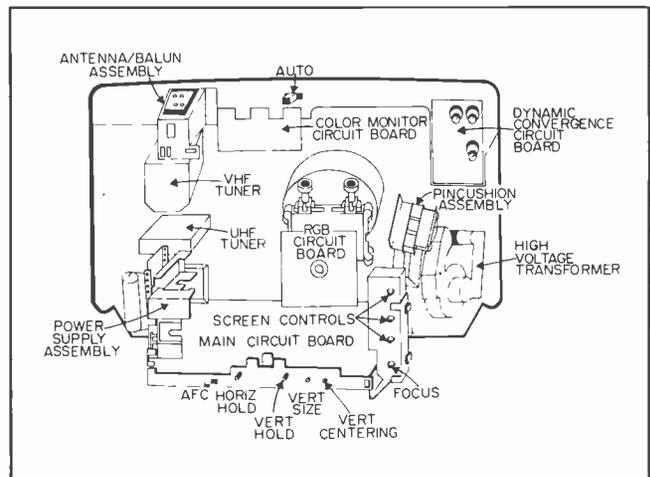

Fig. 4—The chassis layout of GE's new portable color TV chassis AA, shown from the rear.
Four basic assemblies mounted to the front portion of the two-piece cabinet make up the AA chassis. The assemblies, shown in Fig. 4, include: (1) The control package; (2) The power supply assembly; (3) The high voltage as-
sembly; and (4) The main printed circuit board. The chassis layout in Fig. 4 is as seen from the rear.